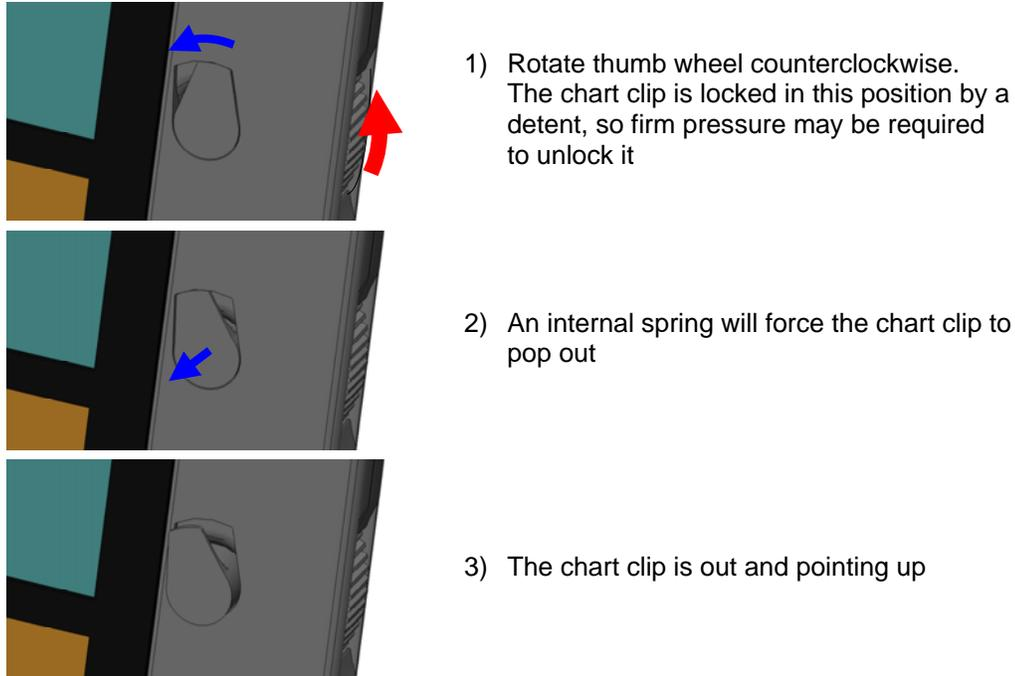

Figure 6. Extending the chart clip. Red arrows denote user actions. Blue arrows denote spring-driven movements.
When the chart clips are retracted into the light meter surface, follow the sequence in Figure 6 to extend them. Note that in step (1) a locking detent may require that a little extra force be applied to unlock the chart clip.
1. Set both clips in the “up” position by rotating the thumbwheels. Refer to Figure 6.